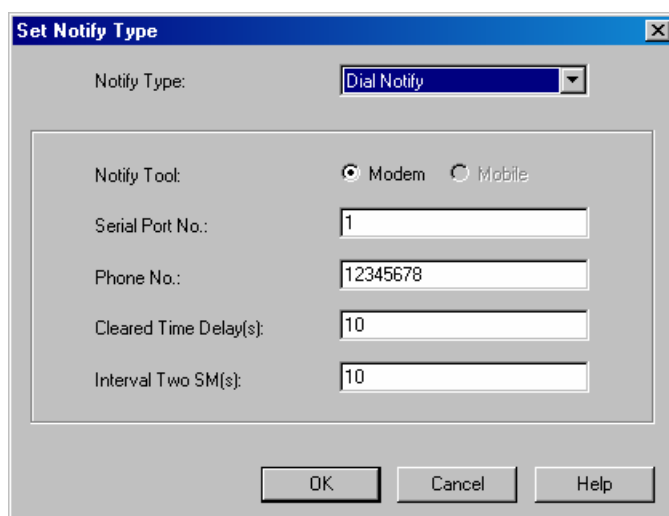

Figure 5-3 Set Notify Type dialog box
- 6) Click **Setting** to display the **Set Notify Type** dialog box as shown in Figure 5-3.